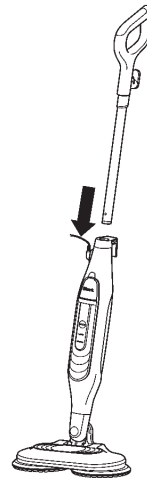

fig. 1
- 1 Insert the mop handle into the steam mop body until it clicks into place. (fig. 1)